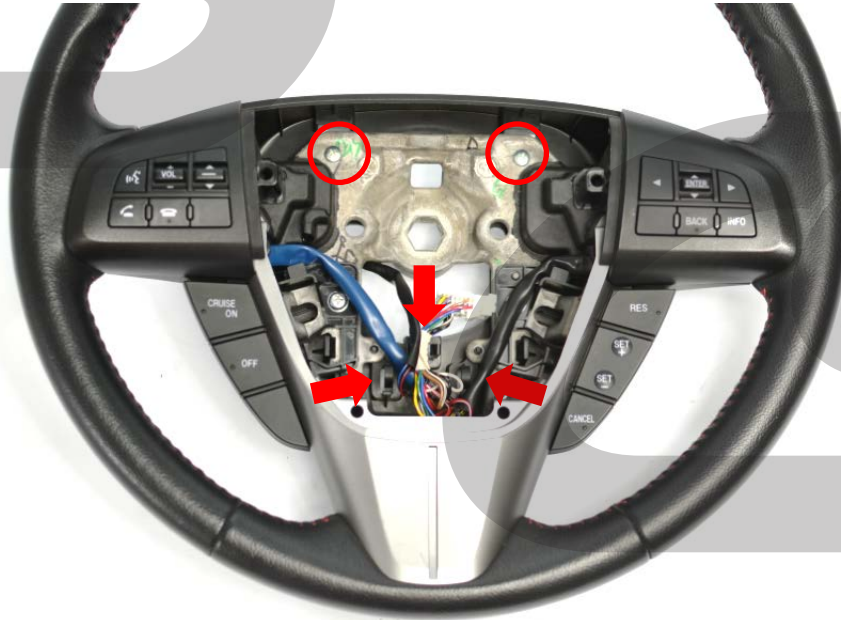

Figure 3a
- a) **Remove the back cover of the steering wheel.** Use a #2 Phillips screwdriver to remove the screws circled in red in Figure 3a. Next, pull the wiring from the three plastic clips, shown with the red arrows in Figure 3a.